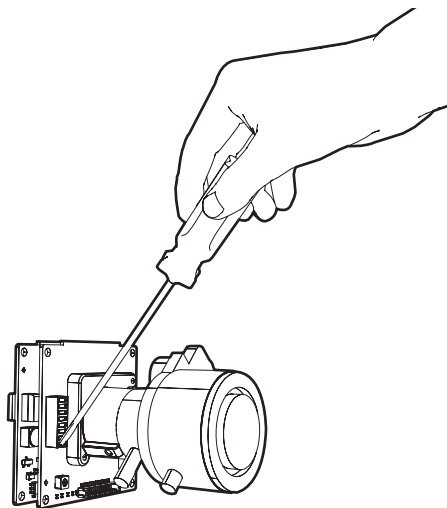

Figure 14. DIP Switches
2. Set the switches for your installation using a small screwdriver (refer to Figure 14.)